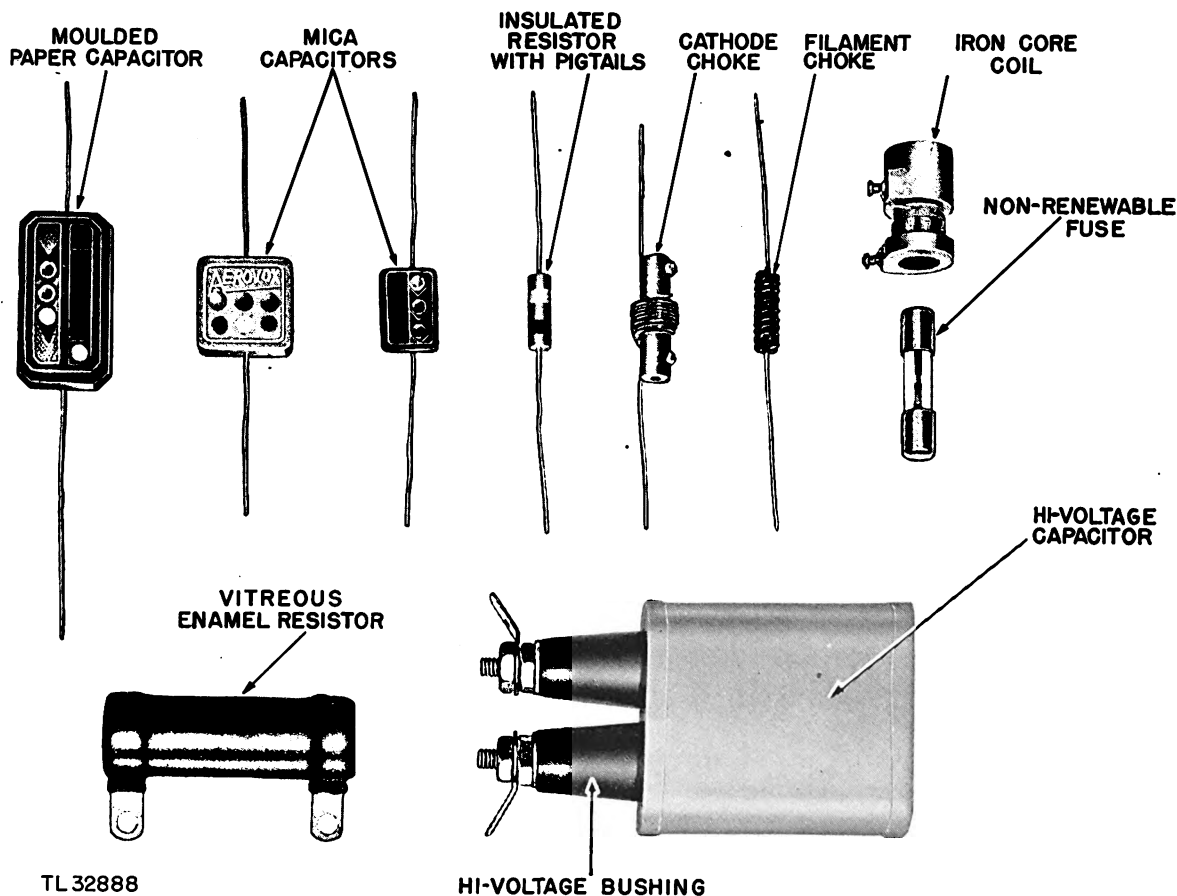

Figure 5. Common maintenance items.
*c. Inspect.* The coating of the vitreous resistors must be examined for cracks and chipping, especially at the ends (fig. 5). Look for blistering and discoloration which indicates overheating of all types of resistors. Look for arc pits. Inspect the leads, brackets, and all connections for corrosion, dirt, dust, and looseness. Look for broken strands in the connecting wire. Check for security of mountings. Do not attempt to move resistors with pigtail connections because there is danger of breaking the connection at the point where it enters the body of the resistor. Such defects cannot be repaired. Inspect the connections of the pigtail resistors for proper soldering.
- (1) All dirty or corroded connections of resistors should be cleaned with a brush or cloth dipped in carbon tetrachloride. Vitreous resistors must be kept clean to avoid flash-over or leakage between the terminals. They should be wiped with a dry cloth, and if a dirt deposit is unusually hard to remove, try using carbon tetrachloride.
- (2) Discolored resistors cannot be cleaned. Slight discoloration of the resistor body at the center is normal. However, excessive discoloration is indicative of overloading at some time prior to the inspection. The overloading frequently is due to some circuit trouble which requires an analysis. Such analysis is detailed in the Service Manual TM 11-1540.
- (3) Resistors with pigtail connections should be cleaned with a small brush.
- (1) Fuses are small strips of metal with a low melting point. They are inserted in series with an electrical circuit to open it when the amount of current exceeds a prescribed value (fig. 5). Fuses protect equipment against overload and damage. The type of fuse used in Radio Set AN/TPS-3 is nonrenewable, and when blown must be replaced. When a fuse blows, an effort should be made to discover the reason for the failure and to correct it before a new fuse is installed.
- (2) Non-renewable or one-time fuses (fig. 5) are to be thrown away when blown and replaced with good fuses. The holder and fuse can be unscrewed from its socket. Care must be exercised to see that the contact surfaces of the fuse and socket are kept clean and tight.
- (1) Insulator bushings are used in the high-voltage circuits, and are constructed of ceramic material with a glazed surface. Since an insulator is no better than its surface, deposits of fine substances upon the surface materially reduce the insulation value of the bushing. Therefore, it is important that bushings used in high-voltage circuits be inspected frequently (fig. 5).